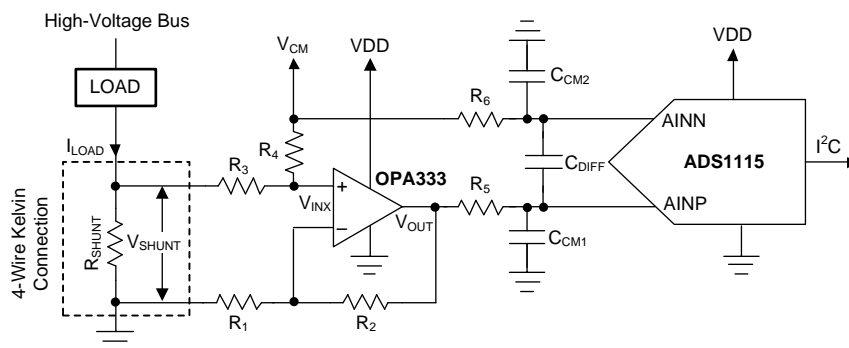

Figure 44. Low-Side Current Shunt Monitoring
Shunt-based, current-measurement solutions are widely used to monitor load currents. Low-side, current-shunt measurements are independent of the bus voltage because the shunt common-mode voltage is near ground. Figure 44 shows an example circuit for a bidirectional, low-side, current-shunt measurement system. The load current is determined by measuring the voltage across the shunt resistor that is amplified and level-shifted by a low-drift operational amplifier, OPA333. The OPA333 output voltage is digitized with ADS1115 and sent to the microcontroller using the I²C interface. This circuit is capable of measuring bidirectional currents flowing through the shunt resistor with great accuracy and precision.
1. To level-shift the ground-referenced signal to allow bidirectional current measurements while running off a unipolar supply. The voltage across the shunt resistor, V_{SHUNT} , is level-shifted by a common-mode voltage, V_{CM} , as shown in Figure 44. The level-shifted voltage, V_{INX} , at the noninverting input is given by Equation 5.
A shunt resistor (R_{SHUNT}) is an accurate resistance inserted in series with the load as shown in Figure 44. If the absolute voltage drop across the shunt, $|V_{SHUNT}|$, is a larger percentage of the bus voltage, the voltage drop may reduce the overall efficiency and system performance. If $|V_{SHUNT}|$ is too low, measuring the small voltage drop requires careful design attention and proper selection of the ADC, operation amplifier, and precision resistors. Make sure that the absolute voltage at the shunt terminals does not result in violation of the input common-mode voltage range requirements of the operational amplifier. The power dissipation on the shunt resistor increases the temperature because of the current flowing through it. To minimize the measurement errors due to variation in temperature, select a low-drift shunt resistor. To minimize the measurement gain error, select a shunt resistor with low tolerance value. To remove the errors due to stray ground resistance, use a four-wire Kelvin-connected shunt resistor, as shown in Figure 44.